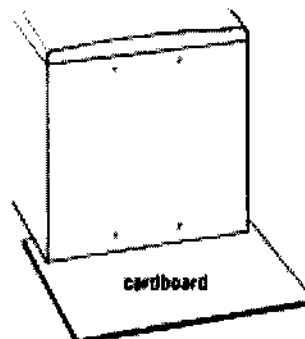

Fig. 1-2
7. Protect the floor with a large piece of cardboard cut from the pedestal carton. Lay the washer on its back so that the cardboard is under the entire lower back edge of the washer. (Fig. 1-2) Go to "Installing the Pedestal".